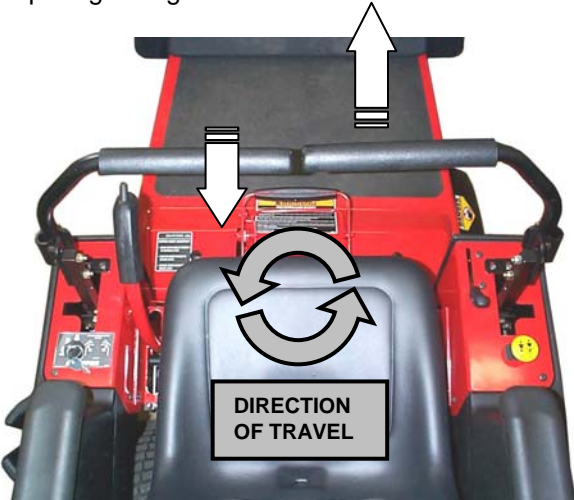

FIGURE 2.7
1. **To Zero-turn left**, push the right lever forward while pulling the left lever back into reverse. See Figure 2.7.